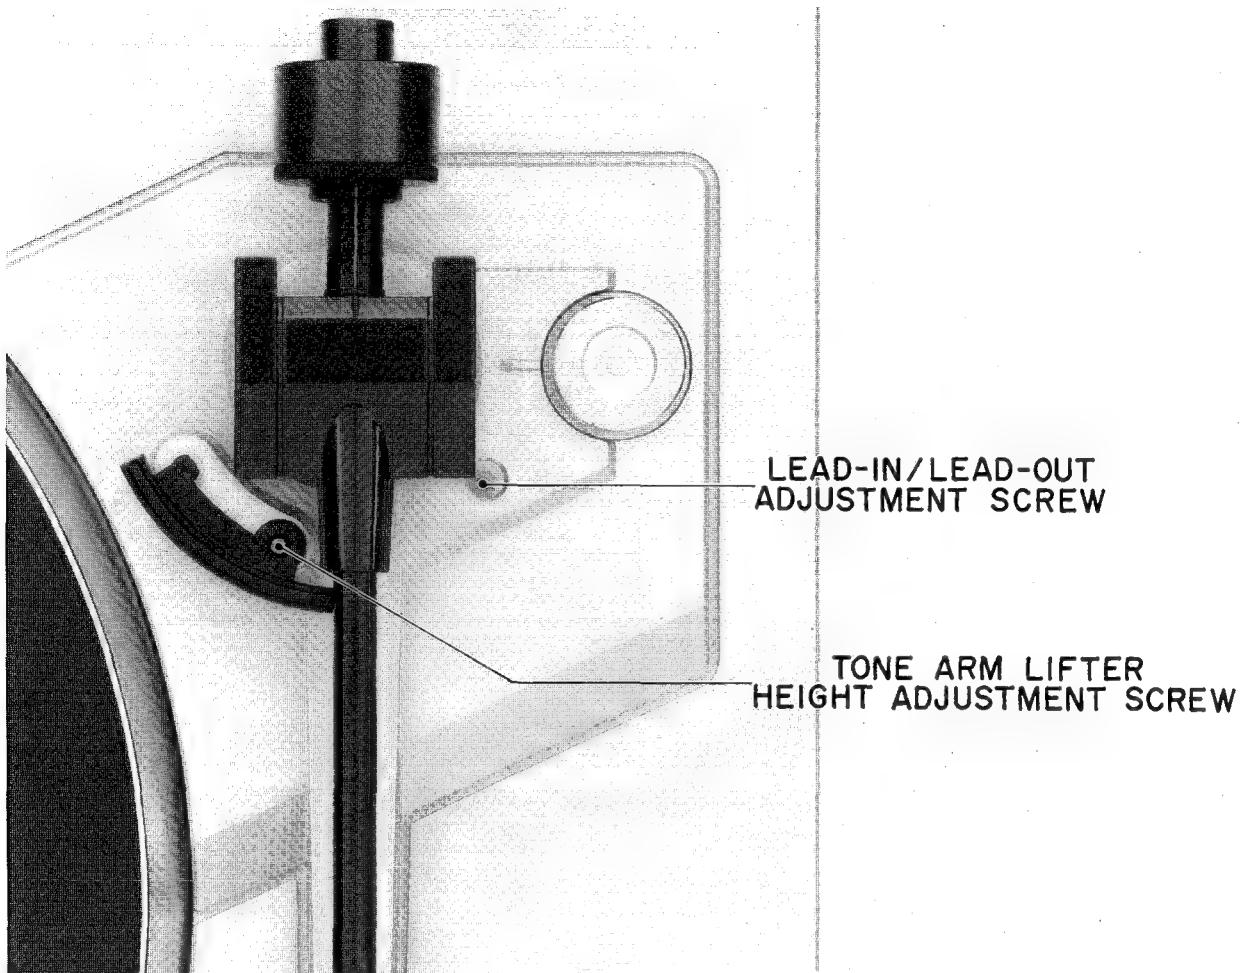

Fig. 7 Tone Arm Lifter height Adjustment and Lead-IN/Lead-OUT Adjustment
- h) While repeating the operation of ▼ (UP) ↔ ▼ (DOWN) of the cueing, tighten the screw (c) until the stylus point hardly changes.
2) Tone Arm Lifter Height Adjustment (Refer to Fig. 7).
(Refer to Fig. 7)